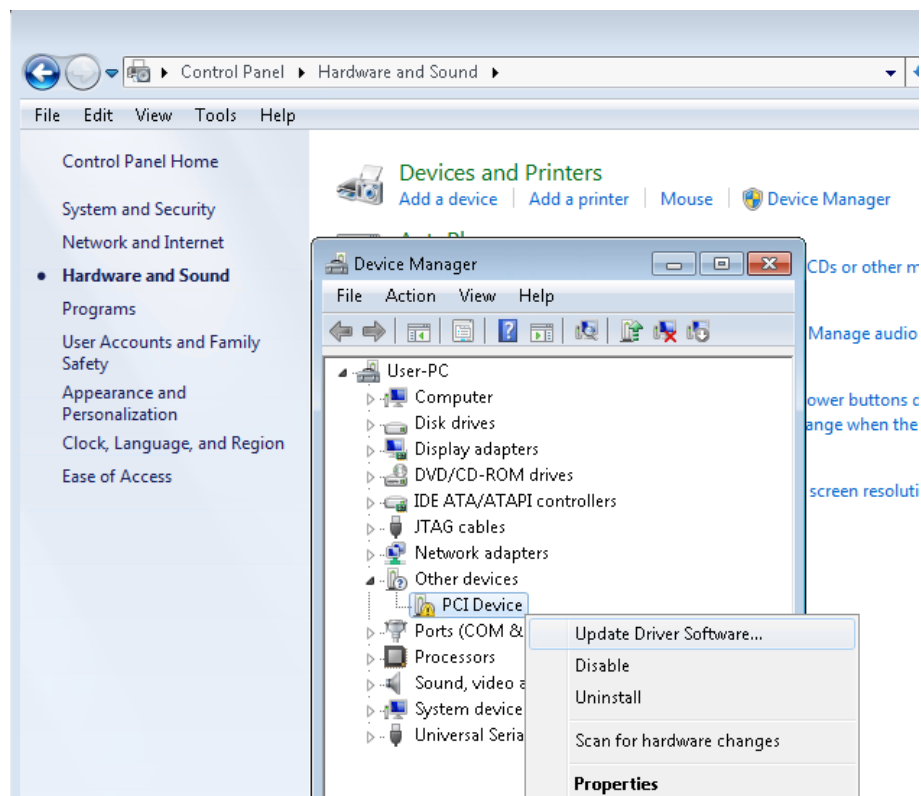

Figure 3 Screenshot of launching Update Driver Software... dialog
7. Click Control Panel menu from Windows Start menu. Click Hardware and Sound item before clicking the Device Manager to launch the Device Manager dialog. There will be a PCI Device item in the dialog, as shown in **Figure 3**. Move the mouse cursor to the PCI Device item and right click it to select the Update Driver Software... item.